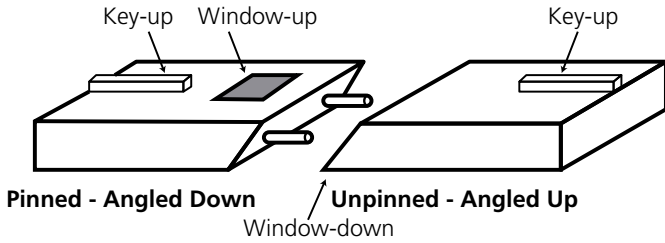

Figure 29. InstaPATCH 360 single-mode MPO angle orientation
Single-mode MPO connectors are polished with an 8-degree angle on the connector ferrule. This angle is there to improve return loss (RL) performance, giving RL measurements of 55dB or better. Since Method B polarity requires the use of aligned-key MPO adapters, pinned and unpinned MPO connectors used in InstaPATCH 360 cable assemblies are angled in opposite directions. Pinned MPO connectors are angled down relative to the key and unpinned connectors are angled up, as illustrated in Figure 29.